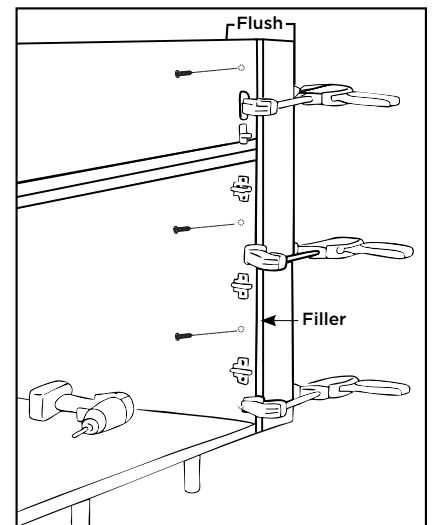

Figure 12
- Attach the Filler to the cabinet by pre-drilling pilot holes through the cabinet box into the Filler secure with #8 x 1 1/4" stainless pan-head screws from inside the cabinet into the Filler (Figure 12).